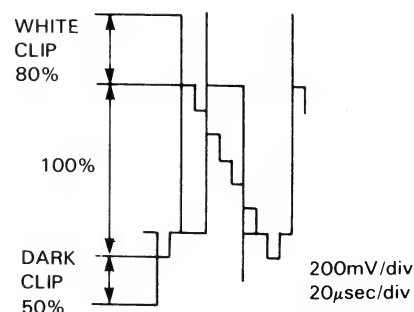

Figure 2-7.
3. Observing the output at TP201, adjust R224 (dark clip control) so that the dark peak overshoot be  $50 \pm 4\%$ . (See fig. 2-7.)